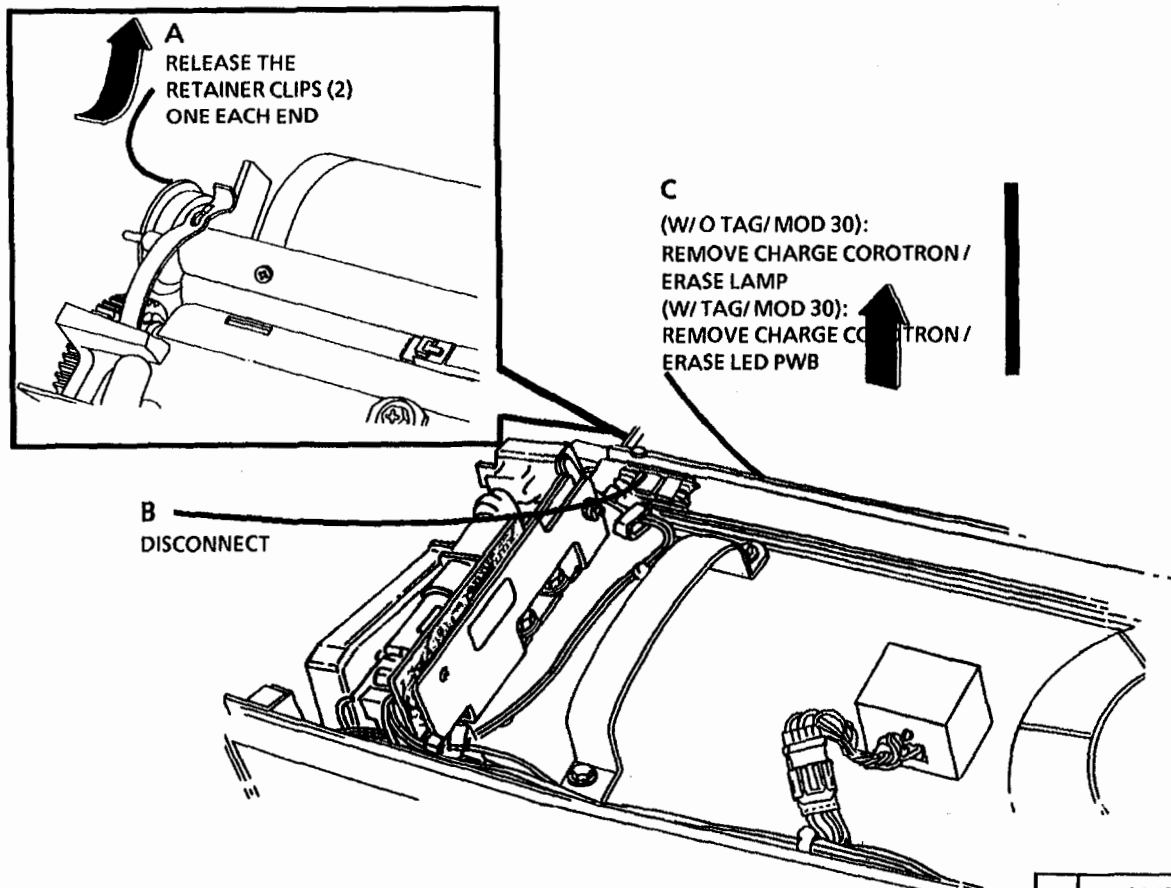

Figure 1. Remove the Charge Corotron/Erase Lamp
4. (Figure 1): Remove the Charge Corotron/ Erase Lamp.